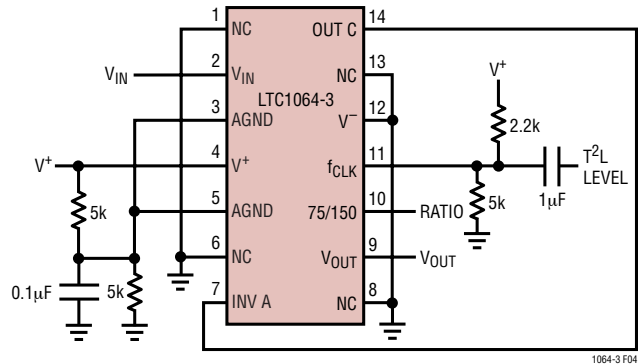

Figure 4. Level Shifting the Input T2L Clock for Single Supply Operation  $\geq 6V$
**fCLK (Pin 11):** For ±5V supplies the logic threshold level is 1.4V. For ±8V and 0V to 5V supplies the logic threshold levels are 2.2V and 3V respectively. The logic threshold levels vary ±100mV over the full military temperature range. The recommended duty cycle of the input clock is 50% although for clock frequencies below 500kHz the clock “on” time can be as low as 200ns. The maximum clock frequency for ±5V supplies is 4MHz. For ±7V supplies and above, the maximum clock frequency is 7MHz. Do not allow the clock levels to exceed the power supplies. For single supply operation ≥6V use level shifting at Pin 11 with T2L levels (see Figure 4).